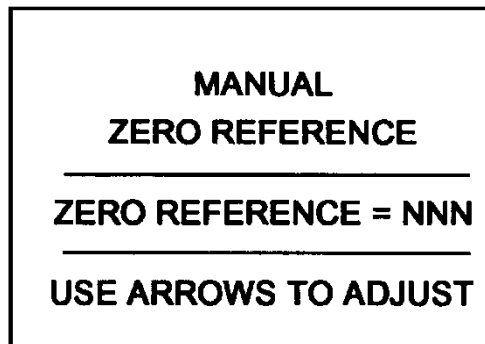

Figure 33
- 14.7.3 Verify that the display changes to "MANUAL ZERO REFERENCE / ZERO REFERENCE = NNN / USE ARROWS TO ADJUST", per Figure 33.